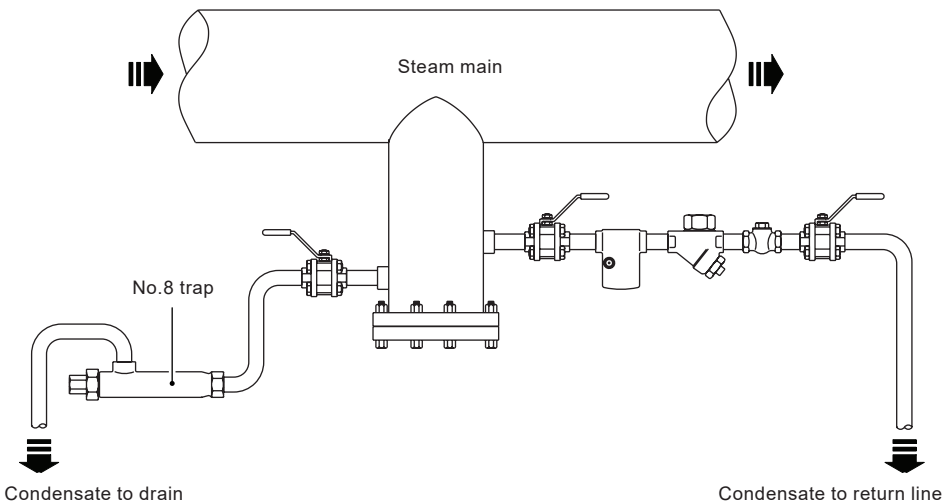

Fig. 2
- 3.5** Because of its fixed temperature discharge characteristic, the liquid expansion trap may be usefully employed as a 'shutdown drain trap'. Its outlet must always point upwards, as illustrated in Figure 2, to enable continuous immersion of the oil filled element, and be routed via an open ended drain terminating below its body to a safe place. As it can only discharge between 60 °C - 100 °C (140 °F - 212 °F), it needs to be installed in conjunction with a 'normal' mains drain trap which would usually be piped to a condensate return line.